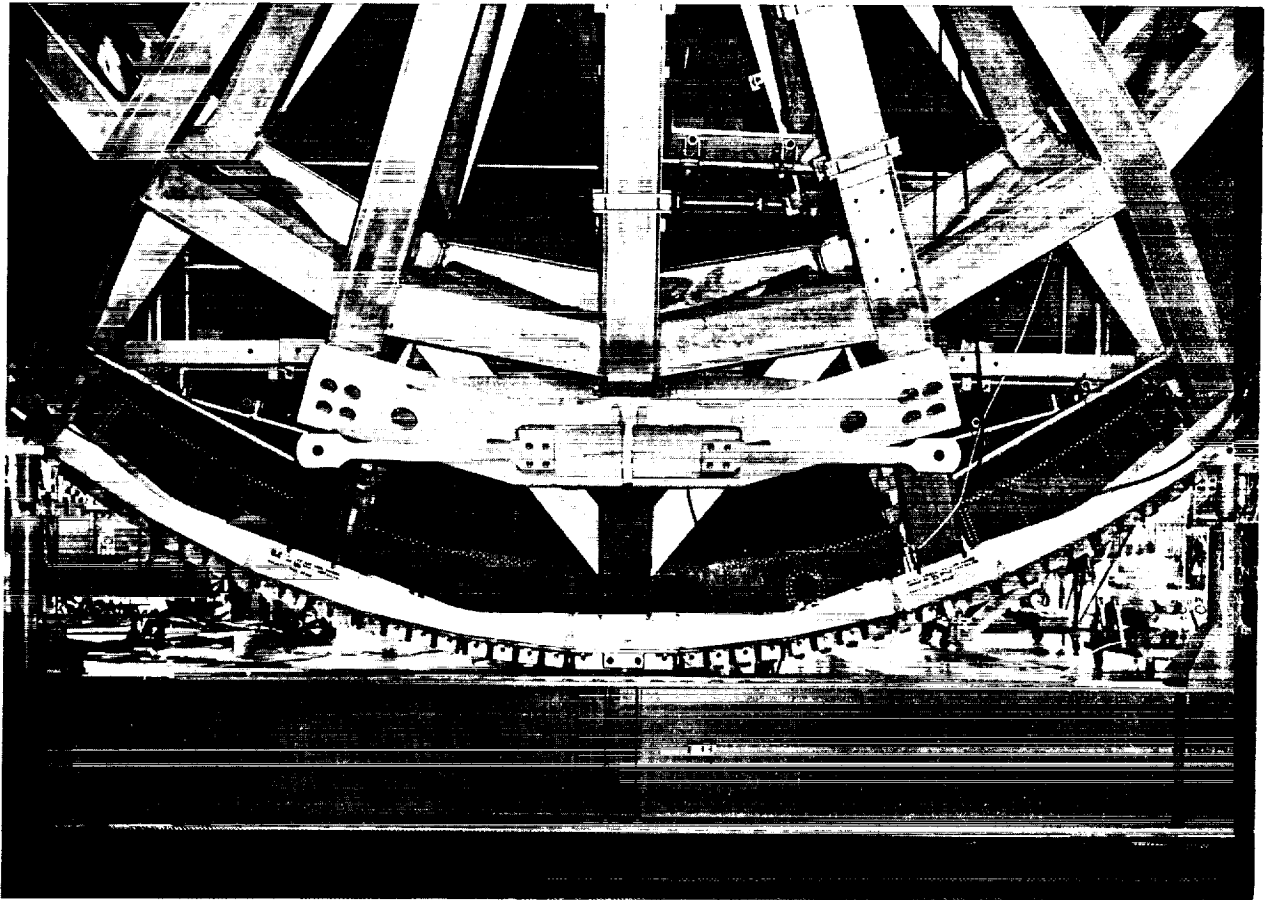

Figure 8-5. S-IC Forward Storage Stand - Utilization
- an. Place handling ring end support assembly (90M01970-1) under S-IC stage per figure 8-5.